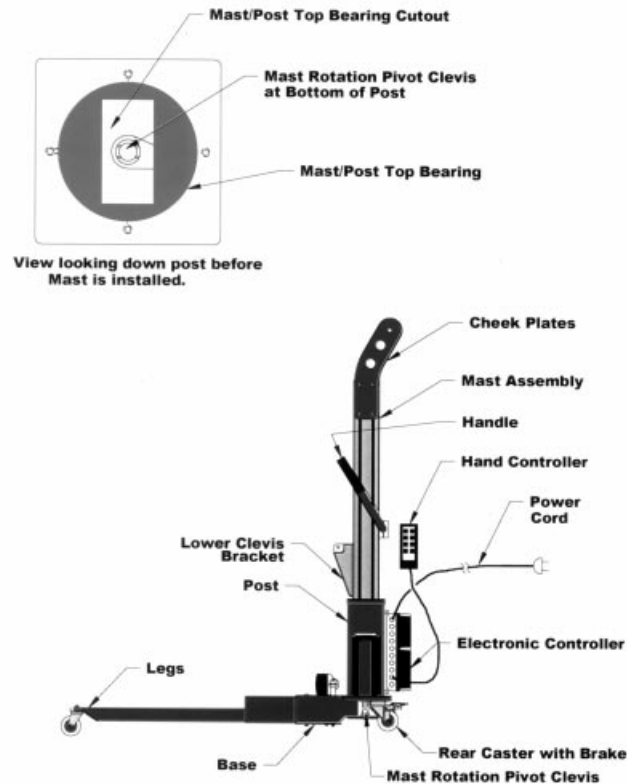

Figure No. 2 (Base & Mast Assembly)
Step 2. MAST ASSEMBLY to BASE ASSEMBLY (Figure No. 2)
The HANDLE BAR is shipped with the HANDLE BAR CLAMP, BOLTS and T-NUTS as a sub-assembly. Place the MAST ASSEMBLY on the floor or table with the CHEEK PLATES (Figure No. 2) facing up. Using the 6-mm Allen Hex Key to loosen, **but not remove**, the HANDLE BAR CLAMPING BOLTS attached to the T-NUTS. Slide the HANDLE BAR ASSEMBLY T-NUTS into the slot on the MAST ASSEMBLY to approximately chest height. Tighten the bolts using the 6-mm hex key to lock the HANDLE BAR Assembly in place.
Prior to installing the MAST ASSEMBLY into the BASE ASSEMBLY, make sure that the ACORN NUTS have been removed from the MAST RETAINER BOLTS on the rear bushing, located on the top of the base. Verify the alignment of the MAST/POST TOP BEARING and the MAST ROTATE PIVOT CLEVIS. This positioning is shown at the top left corner of Figure No. 2. Note that the slot in the top of the PIVOT CLEVIS is parallel with the short side of the cutout in the MAST/POST TOP BEARING. This cutout is patterned after the cross section of the MAST ASSEMBLY.
Failure to properly assemble the MAST ASSEMBLY into the BASE ASSEMBLY POST is normally a result of improper alignment of the cutout in the MAST/POST TOP BEARING and the MAST ROTATE PIVOT CLEVIS (Figure No. 2, top left). This alignment can be obtained by manually rotating the MAST/POST TOP BEARING until the proper alignment is achieved.